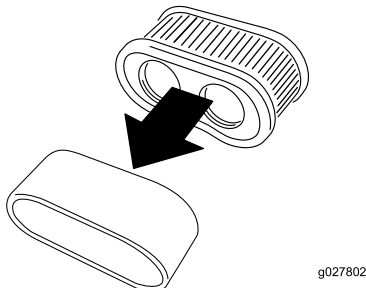

Figure 43
5. Separate the foam and paper elements (Figure 43).